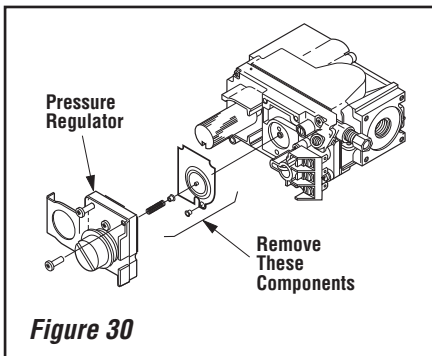

Figure 30
Step 4. Refer to **Figure 30** and the instructions provided with the kit. Using a Torx T20, remove and discard the three pressure regulator mounting screws. Remove the pressure regulator, spring, poppet, diaphragm and bushing. **Discard all removed components.** Ensure the rubber gasket installed on the back of the replacement pressure regulator is properly positioned and install the new pressure regulator using the new screws supplied with the kit. Tighten screws to 25 in-lbs of torque.